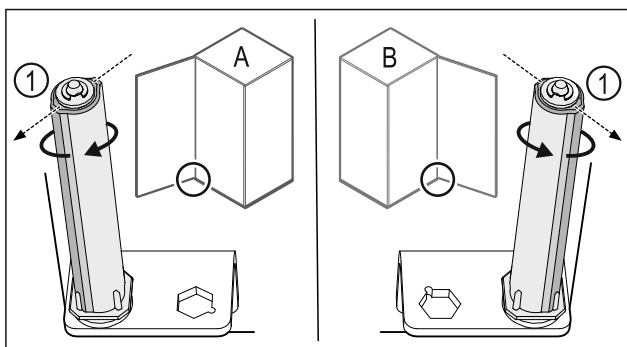

Fig. 41 Left-hinged (A) / Right-hinged (B)
- Turn the closing system against the resistance until the bar of the closing system Fig. 41 (1) points outwards.